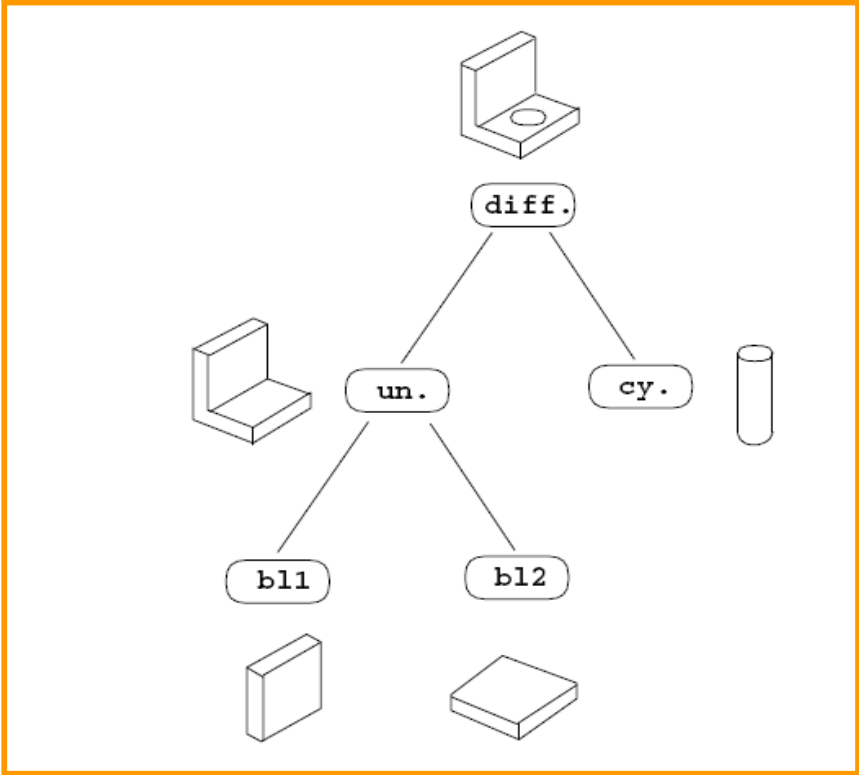

Figure 18: Example of a CSG tree.
- The Boolean operations of the solid model shown in Figure 18 can be envisioned to be a binary tree. The terminal nodes of that tree are primitives and the non-terminal nodes are Boolean operators.